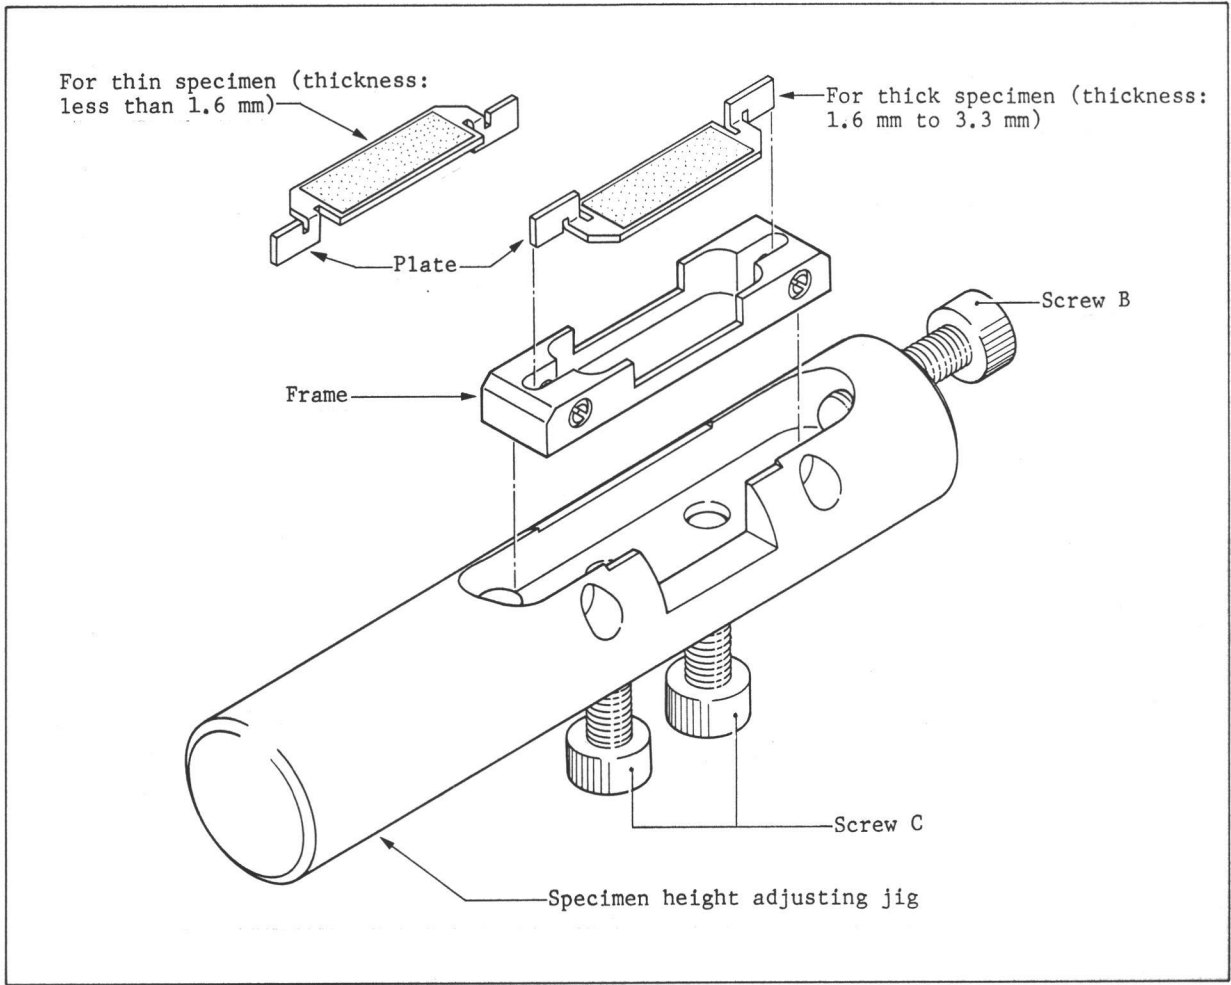

Fig. 9
4. Place the frame in the specimen height adjusting jig so that the frame contacts the bottom of the specimen height adjusting jig, and then secure it with screw B (Fig. 9).
5. Set the plate into the frame with the specimen facing up (Fig. 9).